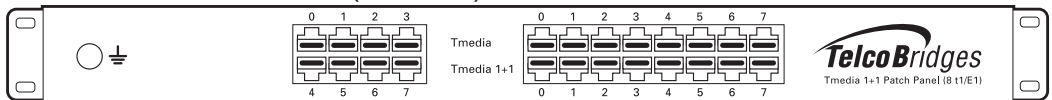

Figure 1.2 Tmedia 1+1 System
The Tmedia 1+1 system, see figure 1.2 on page 3, consists of:
- One (1) TMG800. See figure 1.2 on page 3.
- One (1) set of mounting brackets and screws, used to mount the TMG800 to a 19" rack.
- One (1) DB-9 to RJ-45 adapter to interface the serial port of your computer with the RJ-45 port of the TMG800.
- Three (3) CAT5 Ethernet straight cables (male-male), 3 meters in length.
- One (1) Important Notice (two-sided document containing pertinent product serial numbers, and other important information).
- One (1) Product Warranty.
- One (1) packing slip.
- One (1) Quick Installation Guide (two-sided document that provides a pictorial view of the equipment setup).
- For AC powered units: One (1) or two (2) AC power cables
- For DC powered units: One (1) or two (2) DC power cables
- One (1) set of mounting brackets and screws, used to mount the TMG800+1 to a 19" rack.
- One (1) DB-9 to RJ-45 adapter, to interface the serial port of your computer with the RJ-45 port of the TMG800.
- One (1) Quick Installation Guide (two-sided document that provides pictorial view of the equipment set-up).
- One (1) TMG800+1 unit. See figure 1.2 on page 3.